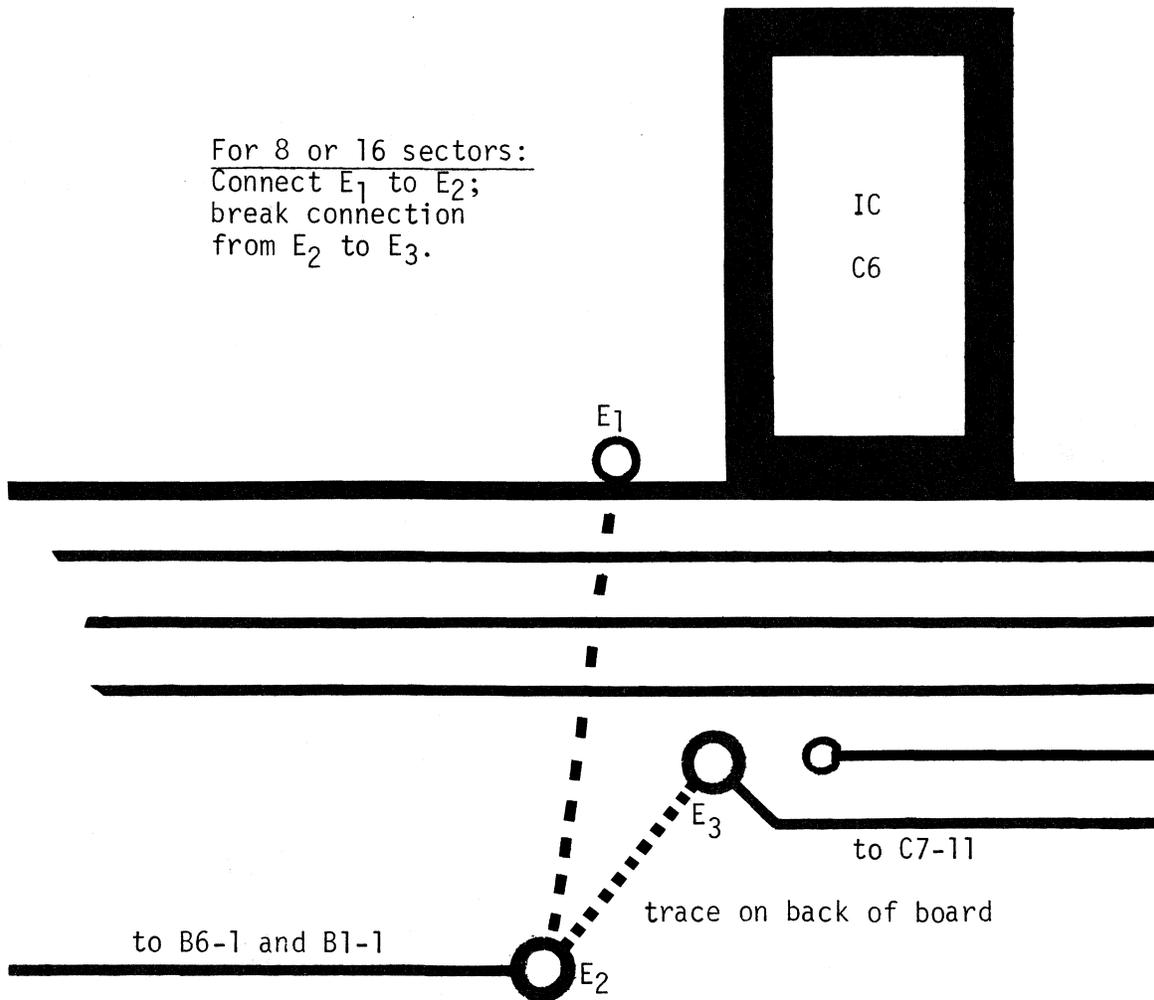

Figure 3-7. Sector Format Change on Coupler Card
3.1.7.4 Sector Format Changes. The XFD-108 normally comes with a 12-bit word, and 10 sectors of 256 words each on 64 tracks. To change to allow 8 or 16 sectors, it is necessary to disconnect B6-1 from C7-11 and reconnect B6-1 to ground as shown in Figure 3-7. The connection of B6-1 must be consistent with connections on the formatter which control word size, sector size, and number of sectors (See Table 3-1). For proper connections and format options, see Section 3.1.8 below.